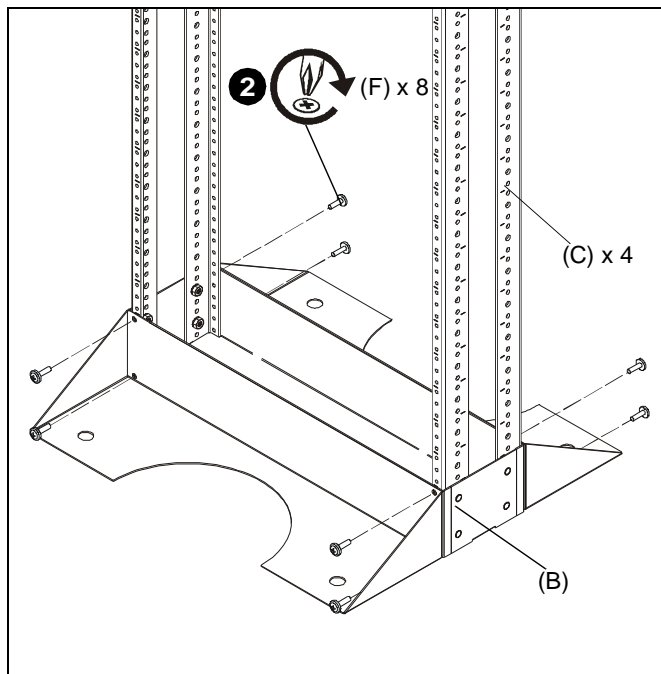

Figure 2
2. Use eight screws with washers (F) to fully secure four rack rails (C) to rack base (B). (See Figure 2)